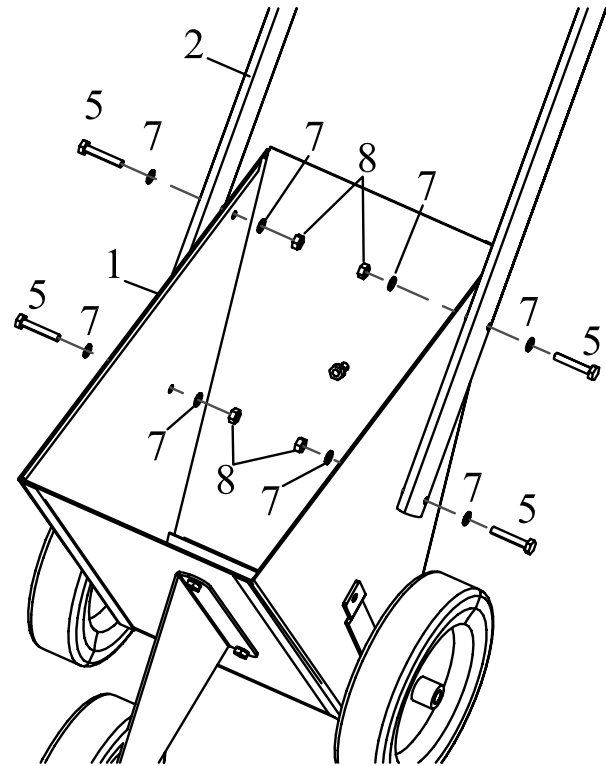

FIGURE 3
Attach the Handle Frame (2) to the Bucket & Frame Assembly (1) with 4 Hex Bolts (5), 8 Washers (7) and 4 Lock Nuts (8). Tighten it securely with wrench. See Figure 3.